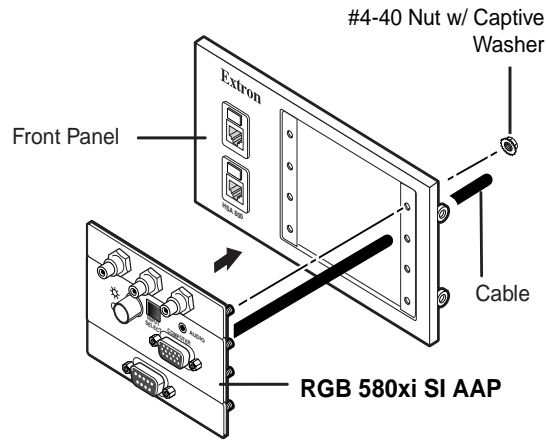

Figure 2-5 — Mounting an AAP device on the faceplate of an international model
3. Insert each of the AAP's screws through the holes in the AAP opening of the HSA front panel. Secure each AAP to the panel with the provided captive washers and #4-40 nuts (figure 2-5).